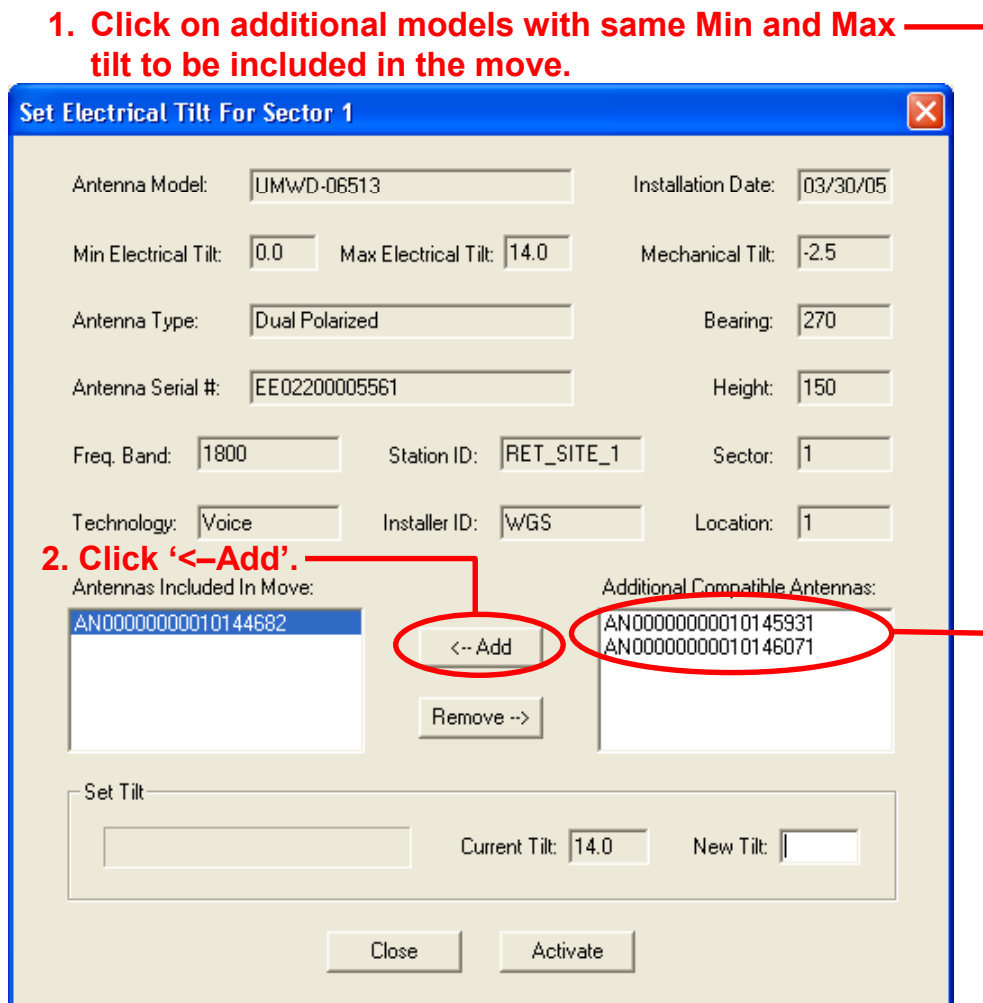

Figure 7-2. Adding Devices to be Included in the Sector Move.
3. From the 'Set Electrical Tilt for Sector' screen, notice that the selected device is highlighted and displayed in the box labeled 'Antennas Included In Move'. This box displays a list of all devices that will be included in the sector move. Initially, this box contains only the antenna that was selected from the main screen. All of the current configuration settings for this device, including its current tilt, are displayed on this screen (Figure 7-2).